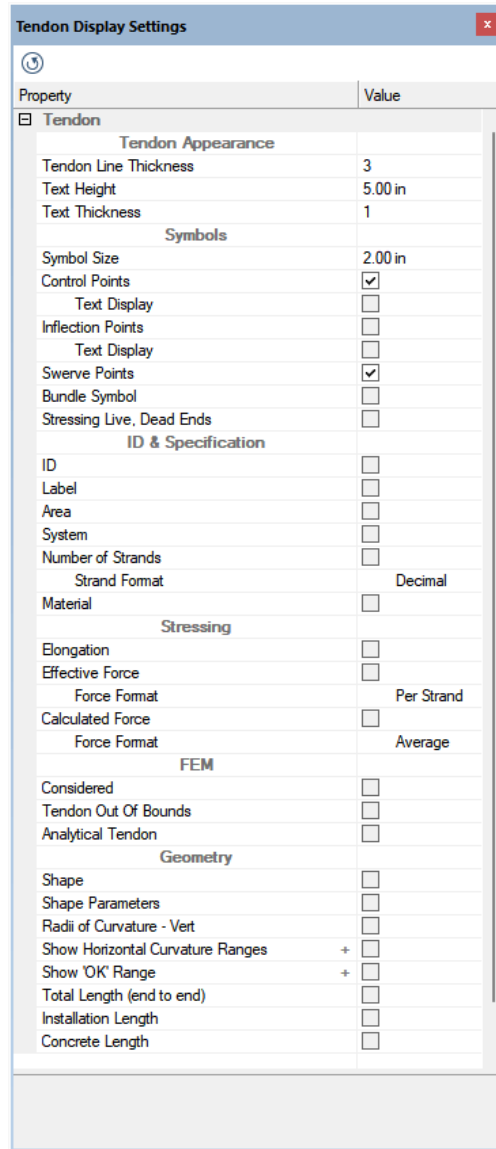

FIGURE 9-40
- Go to the *Tendon* ribbon and click on the **Display Manager** icon . This will open the *Tendon Display Manager* dockable window as shown in **FIGURE 9-40**.